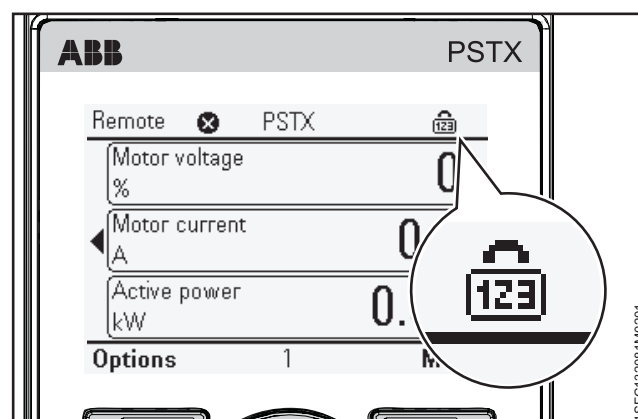

Figure 6.12
3. Lock parameter by a lock code, See **Figure 6.12**